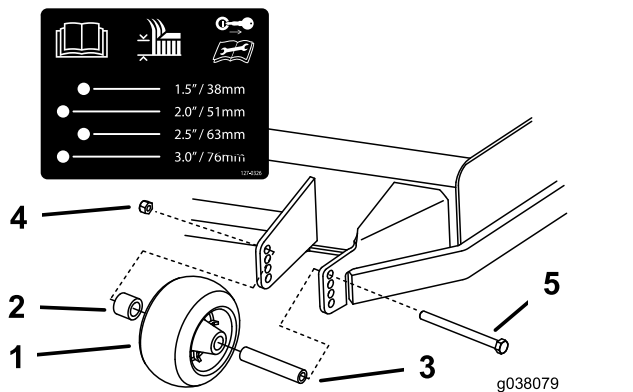

Figura 32
3. Reglai rolele anti-scalp conform Figura 32.